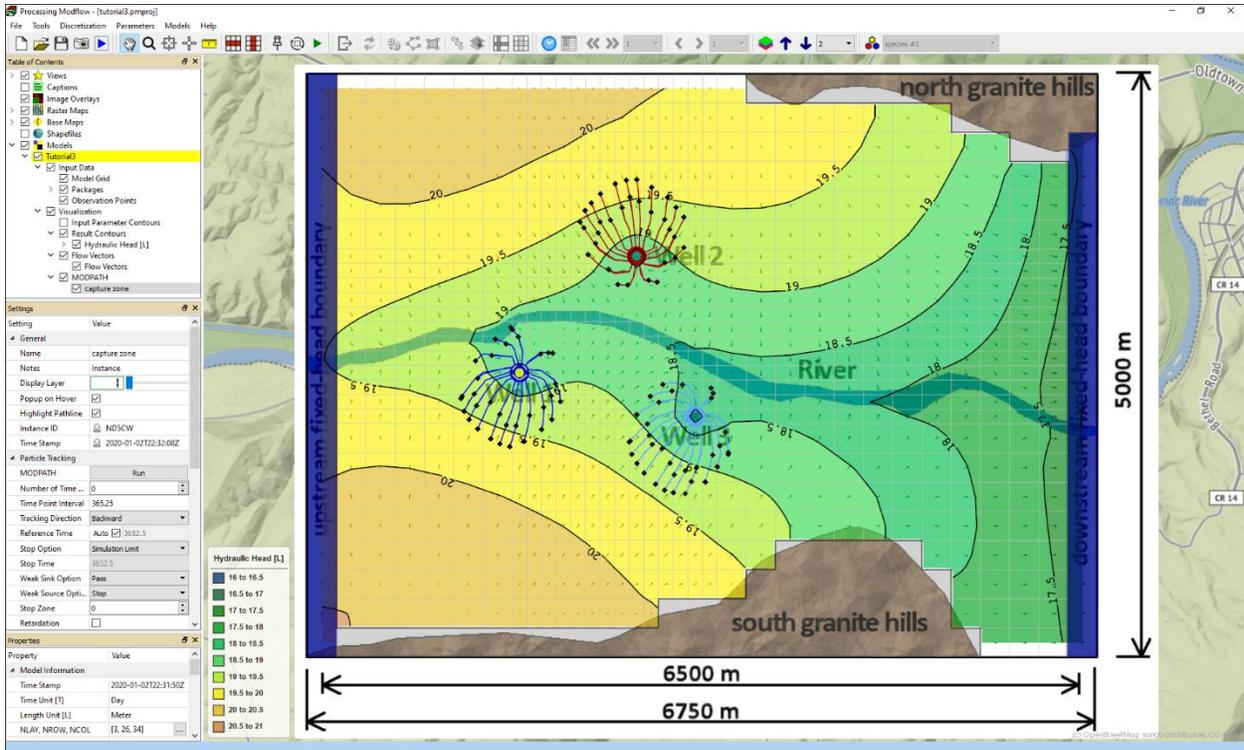

Figure 17. The 10-year capture zones of pumping wells
- Once the simulation is finished, the projection of all pathlines and their end points (black dots) are displayed on the Map Viewer (Figure 17). When the mouse hovers above a pathline or an end point, the pathline will be highlighted. The pathlines terminated at the 10-year tracking time⁵ and the outer border of the end points around each well forms the 10-year capture zone.